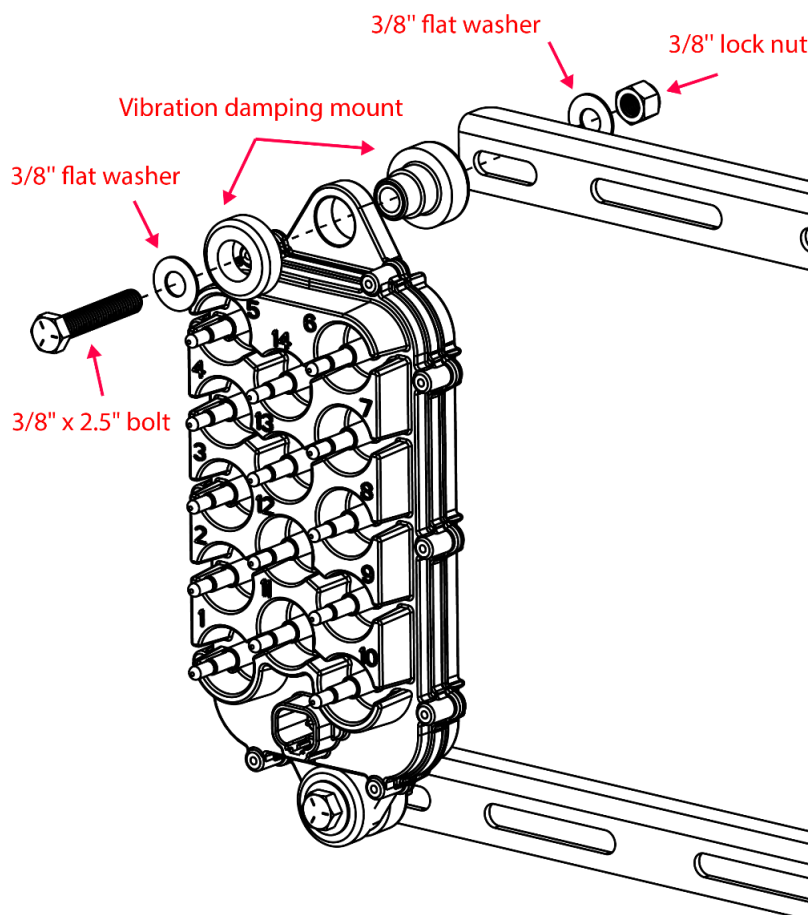

Figure 12: Securing ECU to brackets
2. Secure the top and bottom of the ECU to a bracket using a 3/8" x 2.5" bolt (356060-000237), washers (352012-000031), vibration damping mount (353070-000239), and lock nut (352011-000045) as shown in Figure 12. Hand tighten.